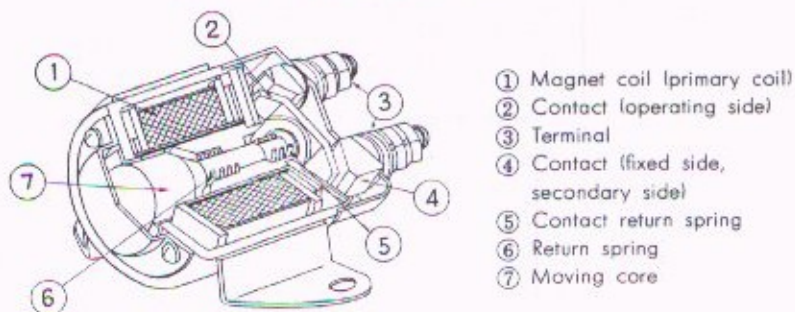

Fig. 2-24. Construction of starter magnetic switch
- b) The contact point at the end of the iron core connects the secondary circuit. (Fig. 2-24)